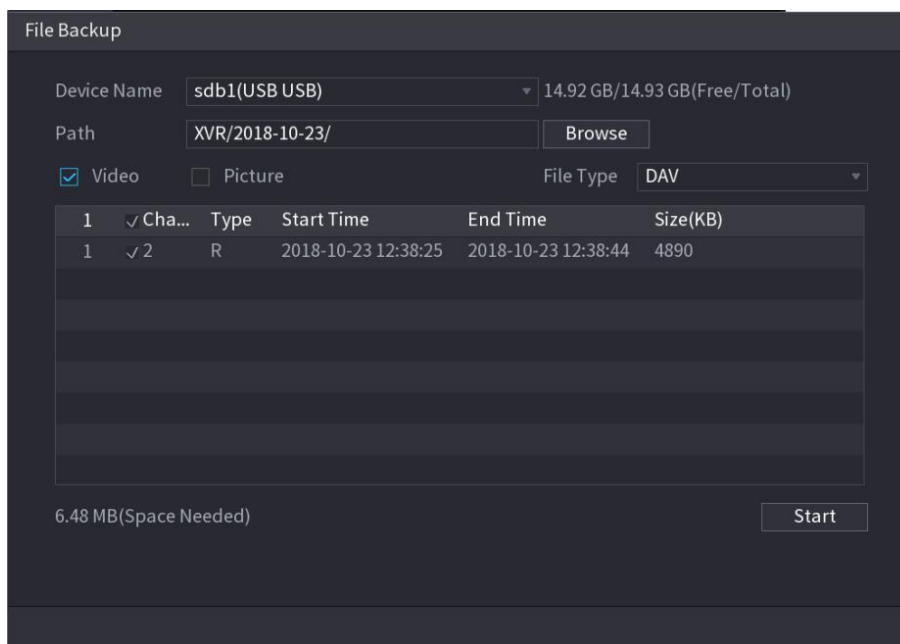

Figure 5-160
- To back up the recorded files to the external storage device, select files, click **Backup**, select the save path and file type, and then click **Start**. See Figure 5-160.